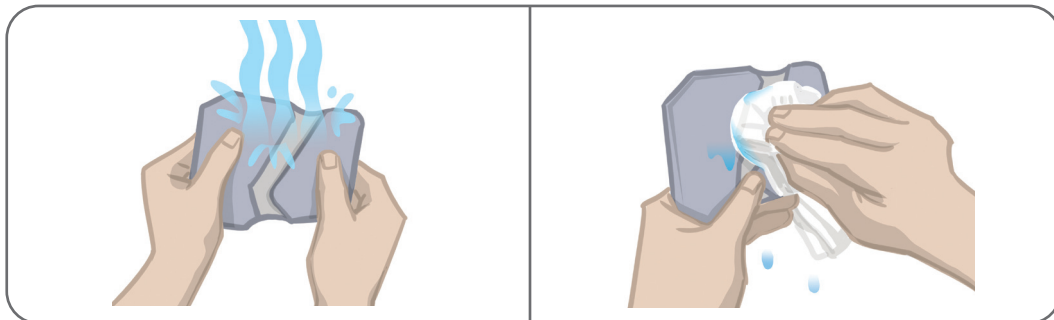

Figure 6-3: Wetting the Electrode and Removing Excess Water
3. Wet the entire Quick Fit Electrode with water. See Figure 6-3.
4. Remove excess water from the Quick Fit Electrode with a cloth. See Figure 6-3.